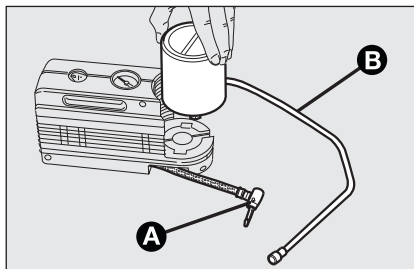

fig. 18
- disconnect connection **A**-fig. 18;